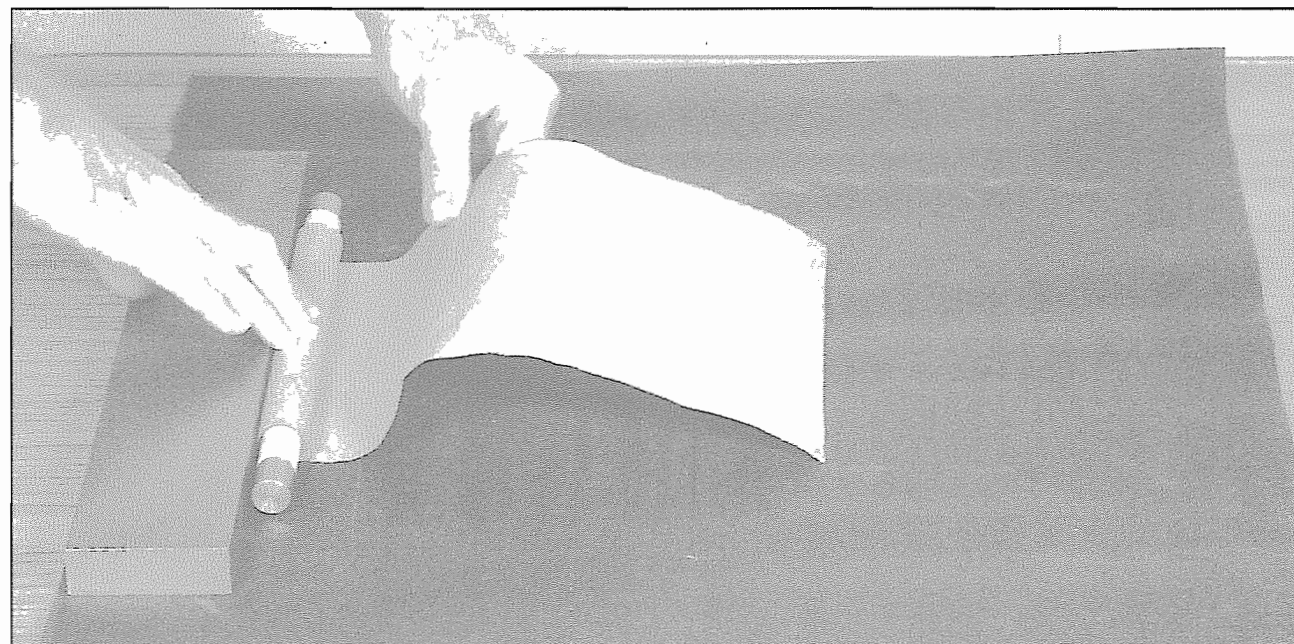

Figure 8-14. A new preglued paper strip is slipped under the bar until its end touches the partially completed tube.
10. Place the bar with the partially completed tube against the metal block. Cut a piece of preglued paper strip 8-1/4" wide x 12" long, and dampen its *entire* surface. *Without delay*, slide one end of the paper under the bar until its end *touches* the partially completed tube (Figure 8-14). Roll the bar forward onto the paper, and rock it back and forth until the end is firmly bonded. Continue rolling until the outside diameter equals 1.00", as measured by an accurate pair of calipers. Then cut off the excess paper, and repeat **step 9**.